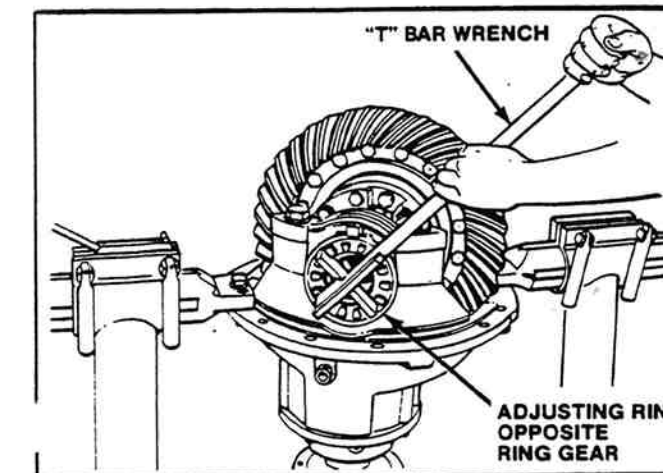

Figure 2-78. Loosening Bearing Adjusting Ring.
CAUTION: When turning the adjusting rings, always use a tool that engages two or more opposite notches in the ring. A "T" bar wrench can be used for this purpose. If the tool does not correctly fit into the notches, damage to the lugs will occur (Figure 2-78).
3. Loosen the bearing adjusting ring that is opposite the ring gear so that a small amount of end play shows on the dial indicator (Figure 2-78). Move the differential and ring gear to the left and right with pry bars while reading the dial indicator. Use the following step *a* or *b*.